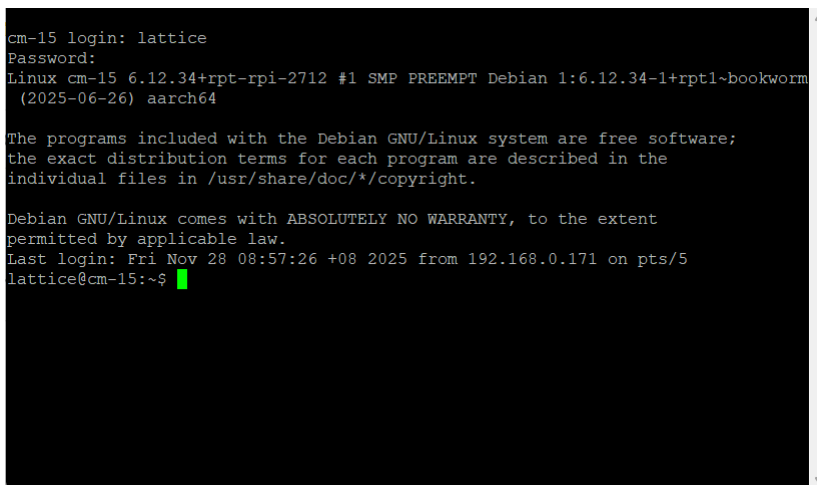

Figure 5.17. Serial Terminal Prompt
- Log in with the default credentials. A terminal prompt is displayed as shown in Figure 5.17.